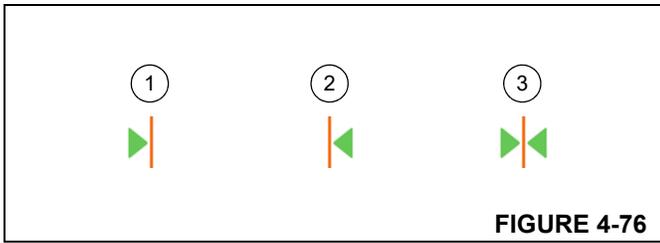

FIGURE 4-76
Near a locking point, the symbols (3), (Figure 4-76) show:
The direction of travel to the locking point (Figure 4-76):